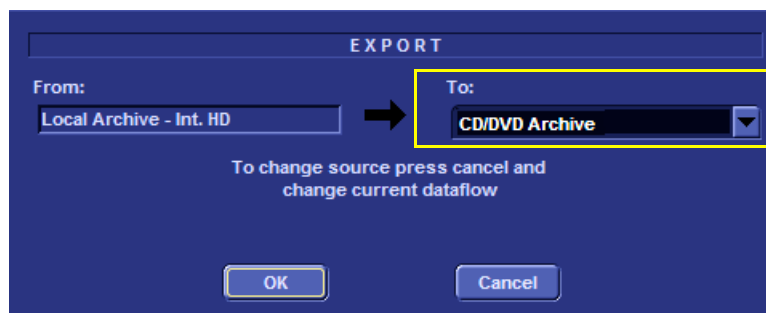

Figure 8-144 Export Screen
The **Export** screen opens - see Figure 8-144.
- 6.) From the Export screen, select the required destination media (Figure 8-144) and click **OK**.